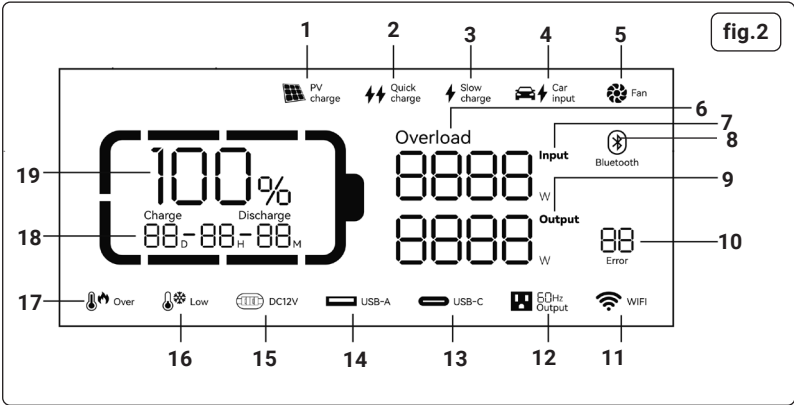

Figure 2 Key
OPERATION (fig.2, fig.3, fig.4)
- When this product has not been interacted with for 5 minutes without any operation, the LCD display (fig.2) will be automatically extinguished.